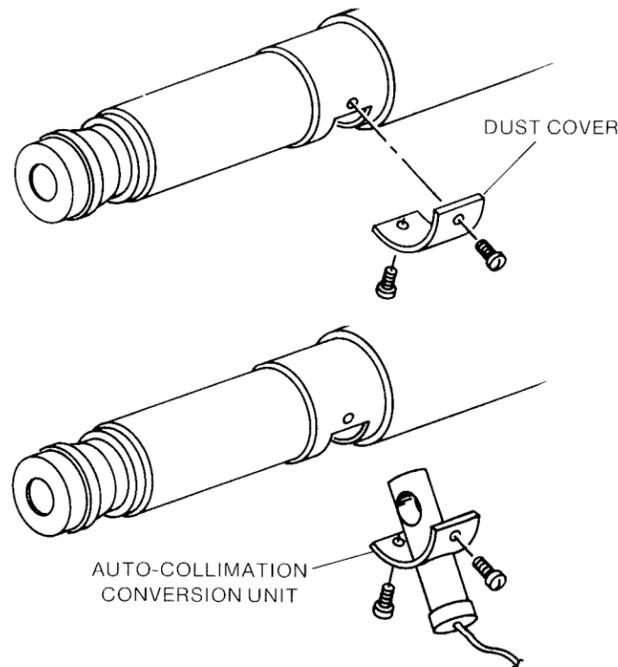

Figure A-2. Installation of Auto-Collimation Conversion Unit
1. Locate the dust cover plate on the underside of the telescope tube just forward of the eyepiece. (See Figure A-2.)